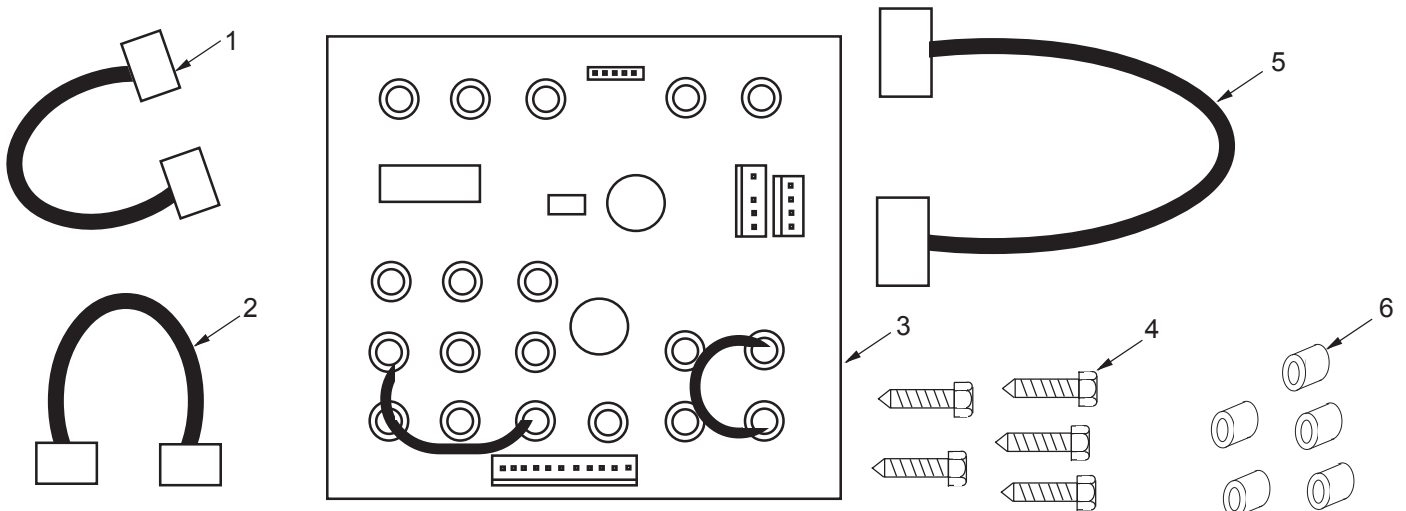

Figure 1. Accessory Kit Parts
3. Unplug the amplifier's 13 pin jumper plug located in the center of the amplifier assembly. Save it for future use (you will need it if you remove this kit). Replace the 13 pin jumper with one end of the amplifier interconnect cable (figure 1 ref. 1). Plug the other end into P2 on the accessory board.
4. Plug the auxiliary interconnect cable (figure 1 ref. 2) into the amplifier's input and P1 of the accessory board.
5. IMPORTANT THE MICROPHONE INTERCONNECT CABLE (FIGURE 1 REF. 5) MUST ALWAYS BE INSTALLED.
- C. Plug the microphone interconnect cable (figure 1 ref. 5) into P4 of the accessory board and the amplifier's microphone input.